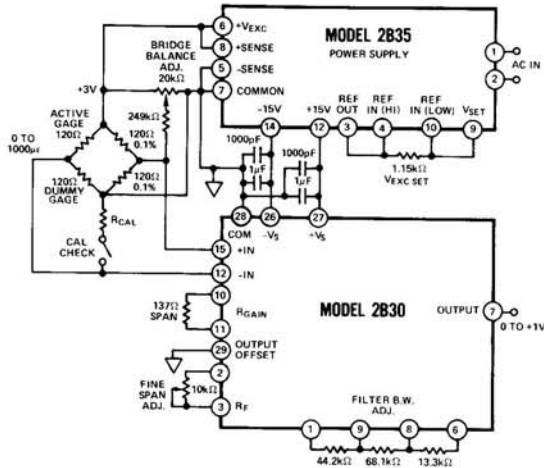

Figure 5. Interfacing Half-Bridge Strain Gage Circuit
**Strain Measurement:** The 2B30 is shown in Figure 5 in a strain measurement system. A single active gage ( $120\Omega$ ,  $GF = 2$ ) is used in a bridge configuration to detect small changes in gage resistance caused by strain. The temperature compensation is provided by an equivalent dummy gage and two high precision  $120\Omega$  resistors complete the bridge. The 2B35 adjustable power supply is set to a low +3V excitation voltage to avoid the self-heating error effects of the gage and bridge elements. System calibration produces a 1V output for an input of 1000 microstrains. The filter cutoff frequency is set at 100Hz.